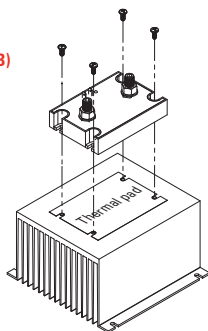

fig. 1 HDC Series SSC mounted on HS053 heat sink (A)
- Select adequate heat sink (see thermal derating curves). (B)
- HDC Series Contactor mounting slots have a diameter of 0.2 in (5.0 mm). Four screws are needed (not included) to mount the SSC onto heat sink (See fig. 1). Choose screw length considering the mounting surface and that HDC Series baseplate thickness is 0.125 in (3.2 mm).